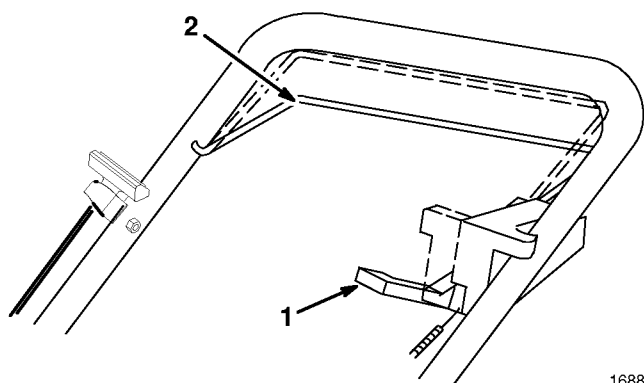

Figure 11
5. To disengage self-propelled drive, lower control bar halfway and move traction control lever forward (toward engine) (Fig. 11).